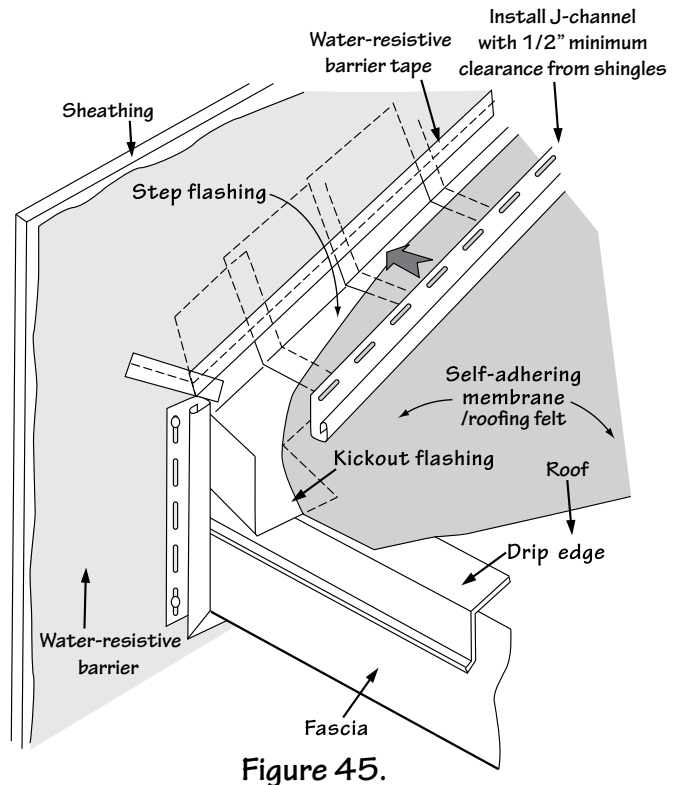

Figure 45.
- As an alternative to the diverter, create a “kickout” from metal flashing, as shown in Fig. 45.
**NOTE:** “Kickout flashing” (Fig. 45) is an additional flashing strip that extends beyond the edge of the fascia that is required in some cold-climate localities.